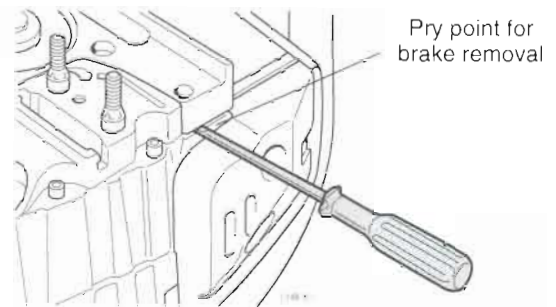

Figure 10.12 Prying the Brake Assembly from the Saw
STEP 4. Insert a thin screwdriver between the brake assembly and the crankcase, and gently pry the brake assembly from the saw. (Figure 10.12)